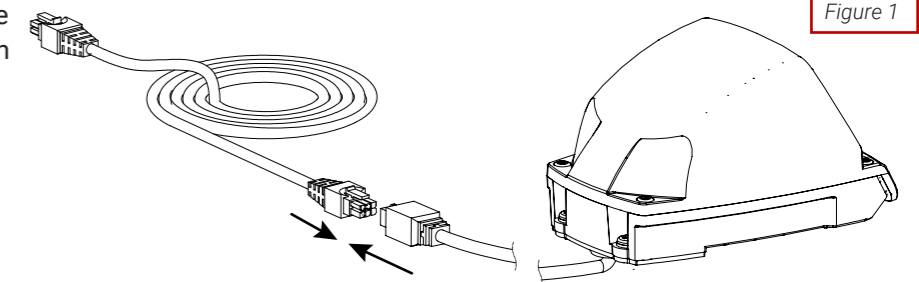

Figure 1
- Connect the camera cable to the extension cable through the panel cable hole. See Figure 1. Ensure the extension cable has a blue band in front of the connectors, indicating it is AHD (Analog High Definition)-compatible.